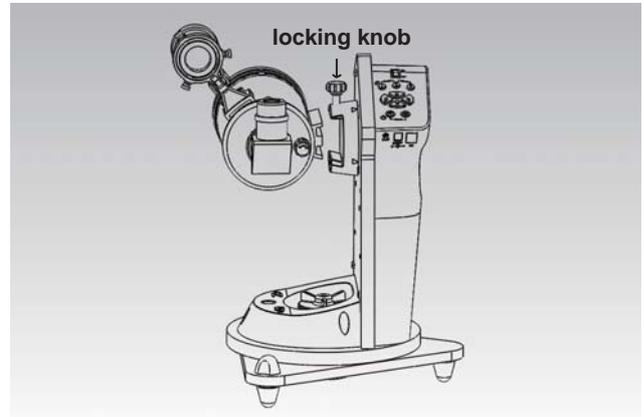

Figure 2
2. Loosen the locking knob on the mounting platform. Slide the dovetail bar on the telescope tube into the slot of the mounting platform and tighten the locking knob. The fork arm should be at the right side of the telescope tube when the telescope tube points forward (Figure 2).